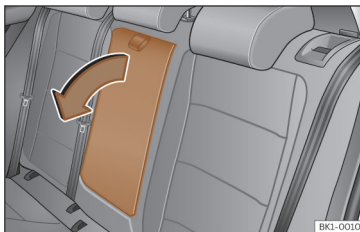

Fig. 85 Folding rear centre armrest (schematic view).
- To lower the armrest, pull the cord in the direction of the arrow >>> Fig. 85.